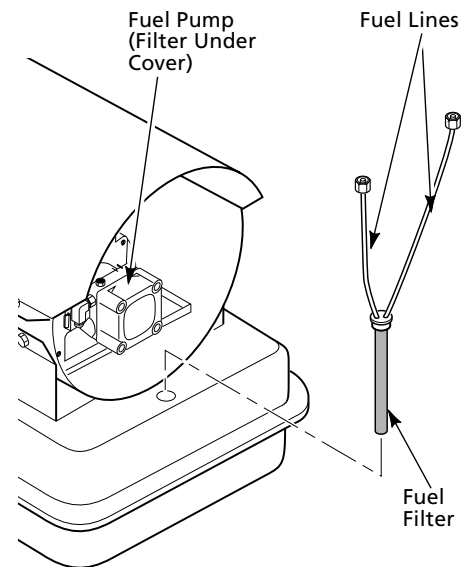

Figure 12 - Removing Tank Fuel Filter
1. Disconnect fuel lines from pump and fuel filter canister, if equipped, with 7/16" wrench (See Figure 12).